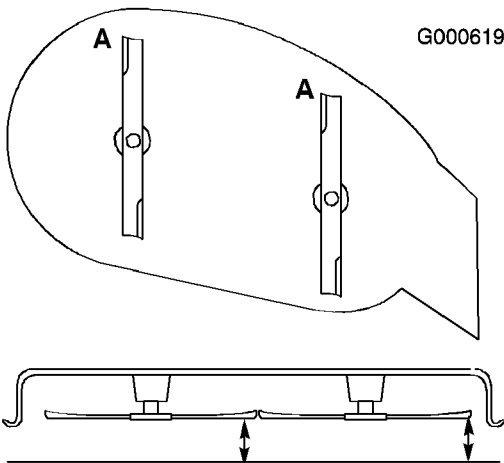

Figure 36
1. Rotate the blades until the ends face forward and backward (Figure 36). Measure from a level surface to the cutting edge, position **A**, of the blades (Figure 36). Note this dimension.